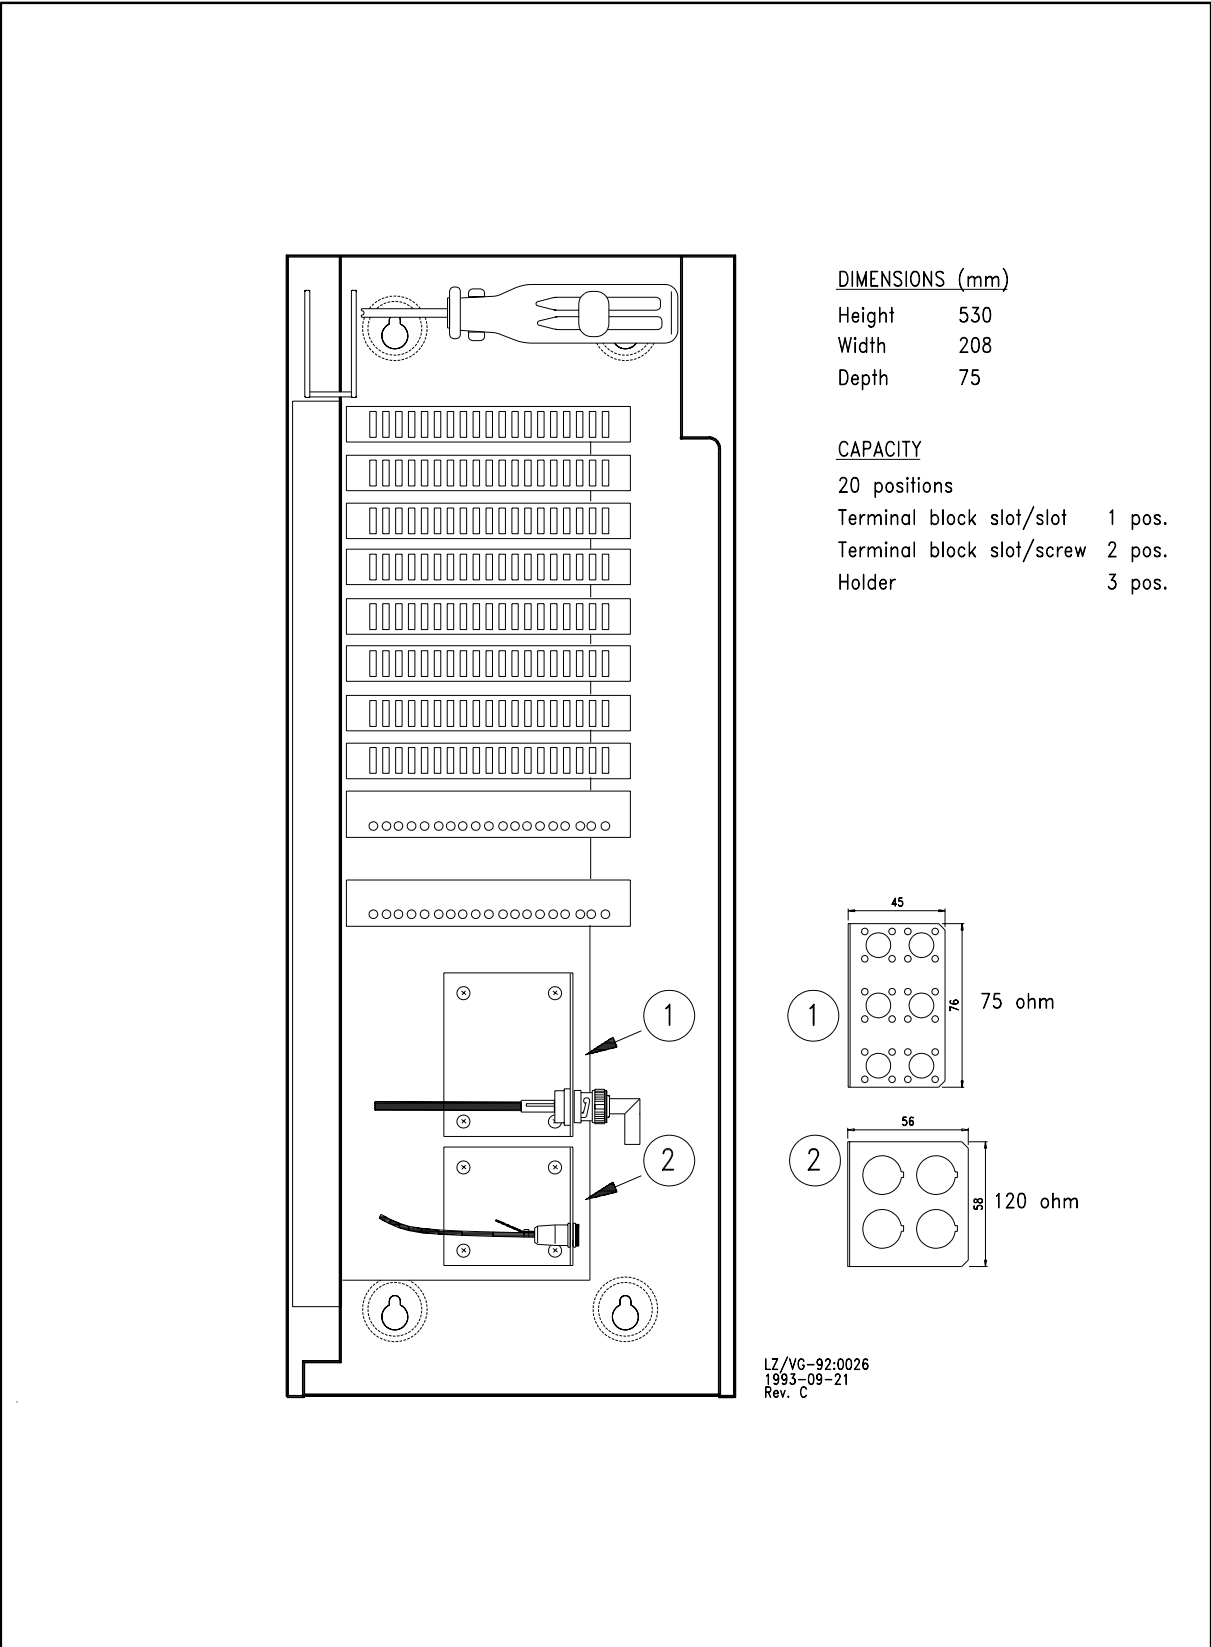

Figure 34 Distribution Frame, DF
The Distribution Frame (DF) is shown in figure 34.